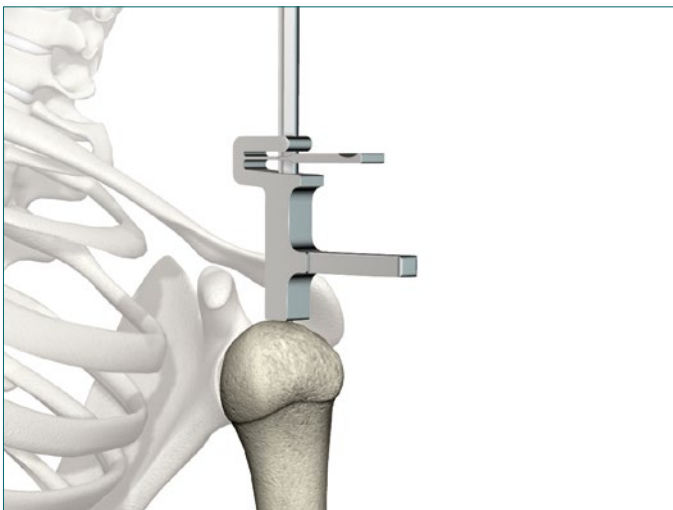

Figure 8
- Once aligned, depress the cantilever arm of the Clamp Tower (red arrow) and slide it down over the shaft of the Starter Awl (blue Arrow) until the Clamp Tower comes in contact with the humeral head [Figure 8].